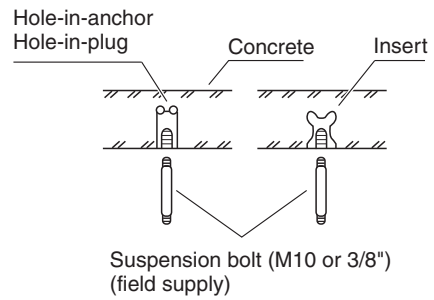

Fig. 3-85
- Fix the suspension bolts securely in the ceiling using the method shown in the diagrams (Figs. 3-85 and 3-86), by attaching them to the ceiling support structure, or by any other method that ensures that the unit will be securely and safely suspended.